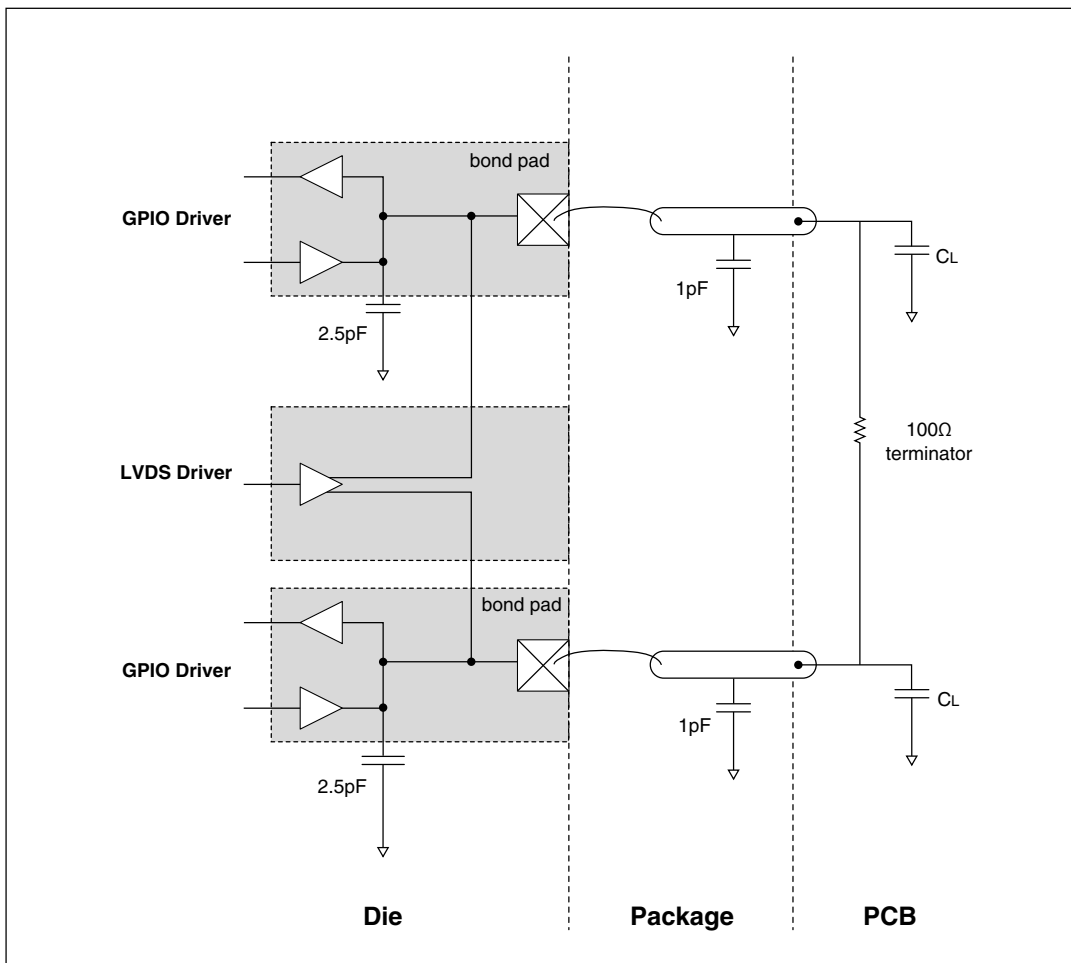

Figure 10. LVDS pad external load diagram
- Total internal capacitance including receiver and termination, co-bonded GPIO pads, and package contributions. For bare die devices, subtract the package value given in Figure 10
1. The MSC and DSPI LVDS pad electrical characteristics are based on the application circuit and typical worst-case internal capacitance values given in Figure 10.
2. Valid for maximum data rate f_{DATA} . Value given is the capacitance on each terminal of the differential pair, as shown in Figure 10.